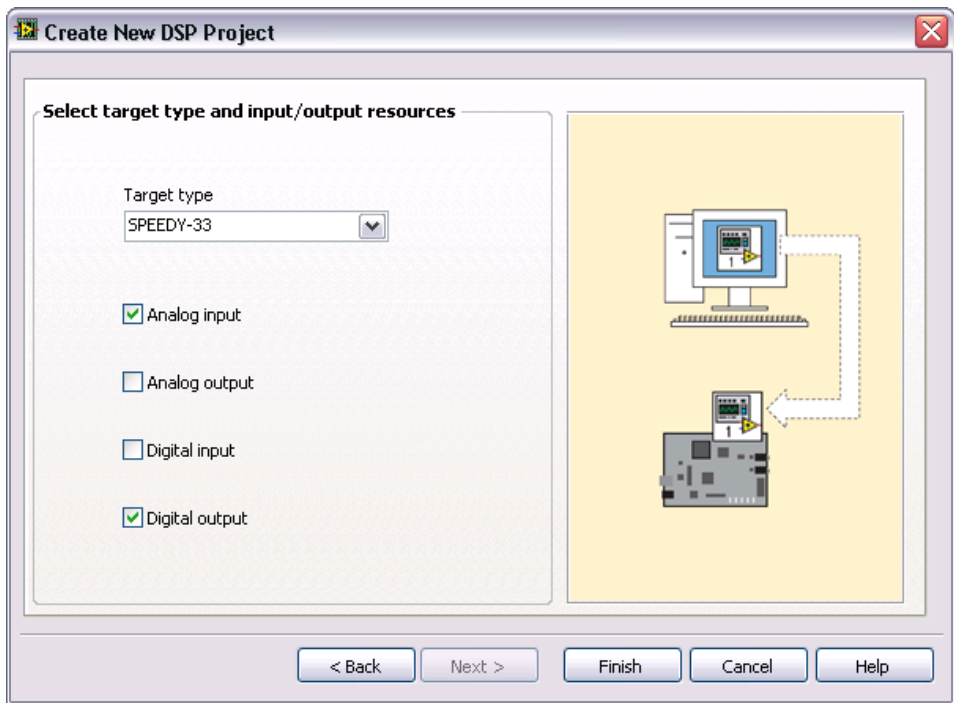

Figure 8. Specifying the DSP Target Hardware and Resources
- Verify that only the **Analog Input** and **Digital Output** checkboxes have checkmarks. By default, the wizard adds all the resources available to the target. You can remove the checkmarks from any of the input/output resources checkboxes that you do not need, as shown in Figure 8.